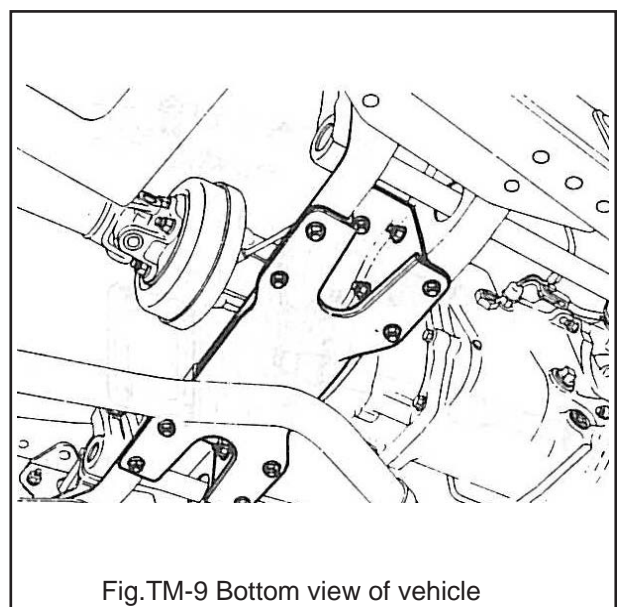

Fig.TM-9 Bottom view of vehicle
13. Unscrew two bolts which attach rear mounting insulator to rear extension housing. See Figure TM-9.
15. Unscrew four cross -member to frame securing bolts, and detach cross -member from frame. See Figure TM-9.